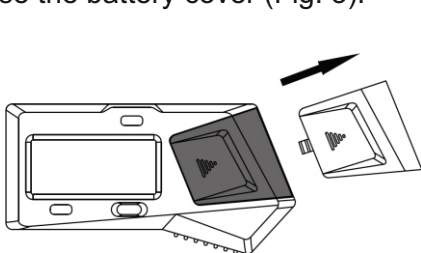

Fig. 1
- » Remove the battery cover (Fig. 1).